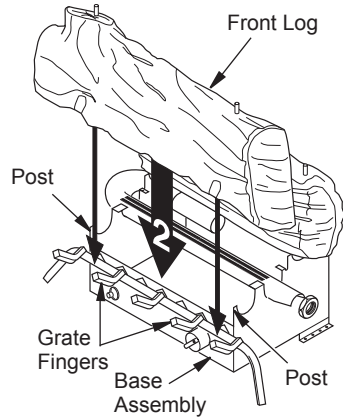

Figure 28 - Installing Front Log
2. Place front log onto grate on front of base assembly. The log will fit down between grate fingers and posts on front of base assembly (see Figure 28). This log may be turned to face either direction.